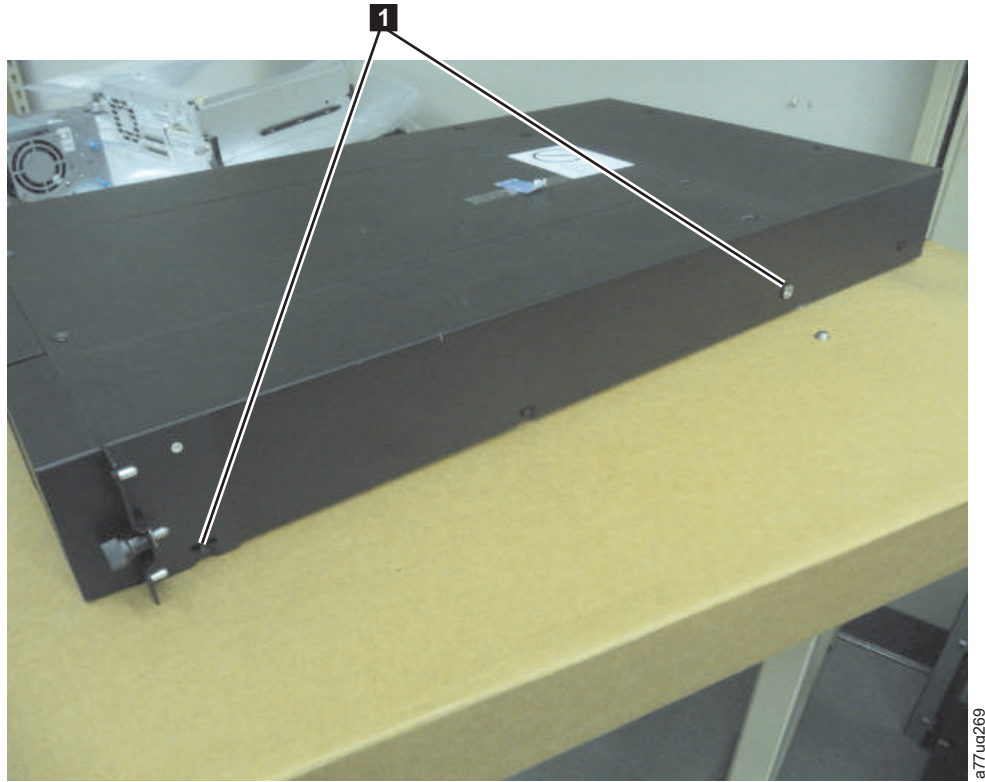

Figure 28. 2U library rack anchors and mounting brackets
4. With the Torx wrench included in your shipment, remove the screws (**1**) as shown in Figure 28 on page 49. Screw locations on the 4U library are similar.
5. Install the library rack anchors (**2**) as shown in Figure 28 on each side of your library with the longest counter-sunk screws included in the rack kit.